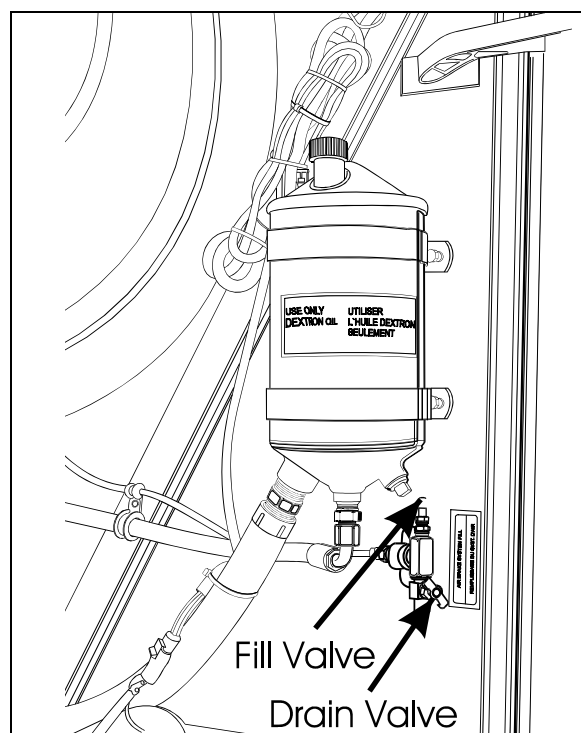

FIGURE 47: REAR VALVE LOCATION
A remote valve located in engine compartment and accessible through engine R.H. side door is used to **purge daily** (Fig. 47).
**The rear valve** is located in engine compartment and accessible from engine R.H. side door (Fig. 47).